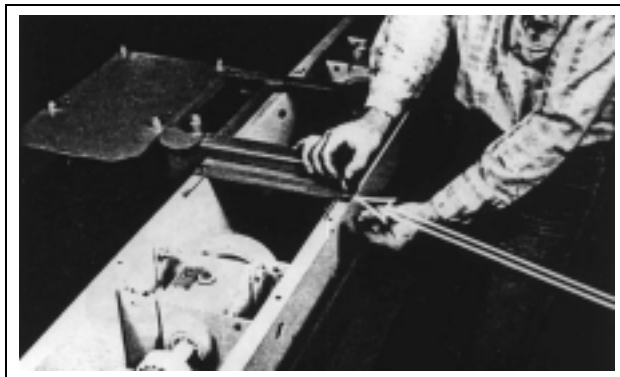

Figure 4P
19. Install motor mount, with support plate, using six (6) 5/16" x 3/4" hex head bolts with lock washers and nuts. Bolt mount bracket in 3rd hole from the outboard end on trolley side rail. BE SURE MOUNTING PLATE IS ON THE SAME SIDE AS ELECTRICAL CORDS. (*See Figure 4P and Page 44.*)